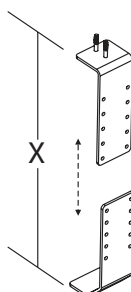

Figure 18-3
3. Position brackets as shown. Slide up or down until you achieve the measured well height. (Holes are arranged for 1/4" increments) [Figure 18-3]